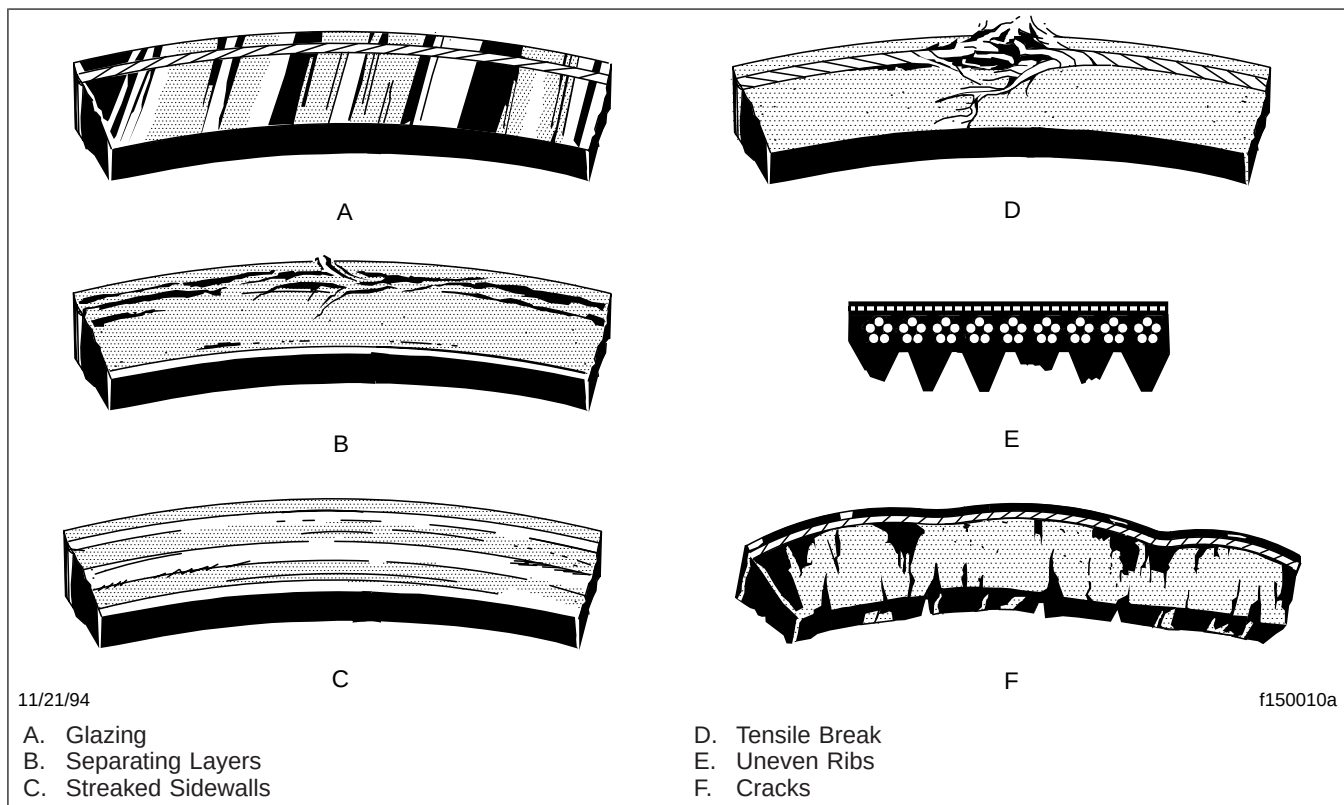

Fig. 5, Drive Belt Replacement Conditions
1. Inspect the belt for glazing. See **Fig. 5**, Ref. A. Glazing is represented by shiny sidewalls, and is caused by friction created when a loose belt slips in the pulleys. It can also be caused by oil or grease contamination on the pulleys.
2. Check the belt for ply separation. See **Fig. 5**, Ref. B. Oil, grease, or belt dressing can cause the belt to fall apart in layers. Repair any oil or coolant leaks that are affecting the belts before
3. Check the belt for a jagged or streaked sidewall. See **Fig. 5**, Ref. C. Jagged or streaked sidewalls are the result of foreign objects, such as sand or gravel in the pulley, or a rough pulley surface.
4. Check for tensile breaks; breaks in the cord body. See **Fig. 5**, Ref. D. Cuts in a belt are usually caused by foreign objects in the pulley, or by prying or forcing the belt during removal or installation.
5. Check for uneven ribs on serpentine (poly-V) belts. See **Fig. 5**, Ref. E. Foreign objects in the pulley will erode the undercord ribs, causing the belt to lose its gripping power.
6. Check the drive belts for cracks. See **Fig. 5**, Ref. F. Small irregular cracks are usually the signs of an old belt.